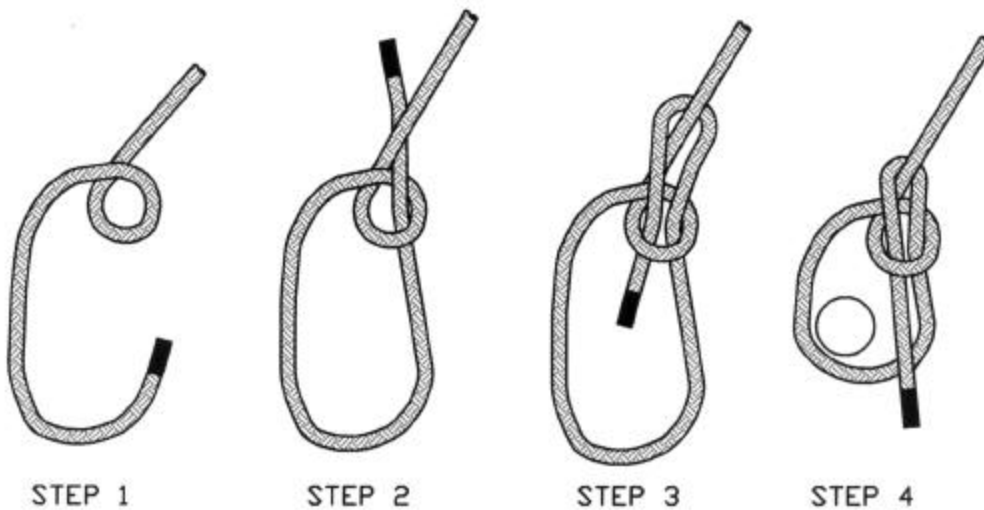

FIG. 3 - TIE A BOWLINE KNOT AROUND DOWEL
3. Tie a loose "bowline" knot on one end of the rope, and insert the dowel through the loop. (See Figure 3)